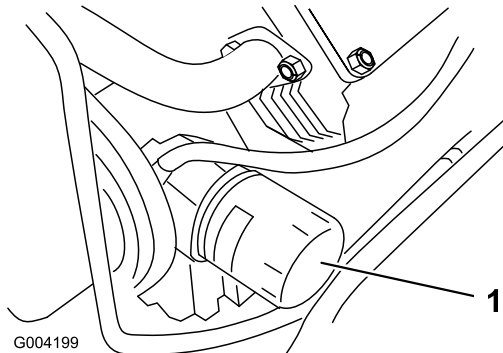

Figure 32
3. Remove the old filter (Figure 32) and wipe the surface of the filter adapter gasket.